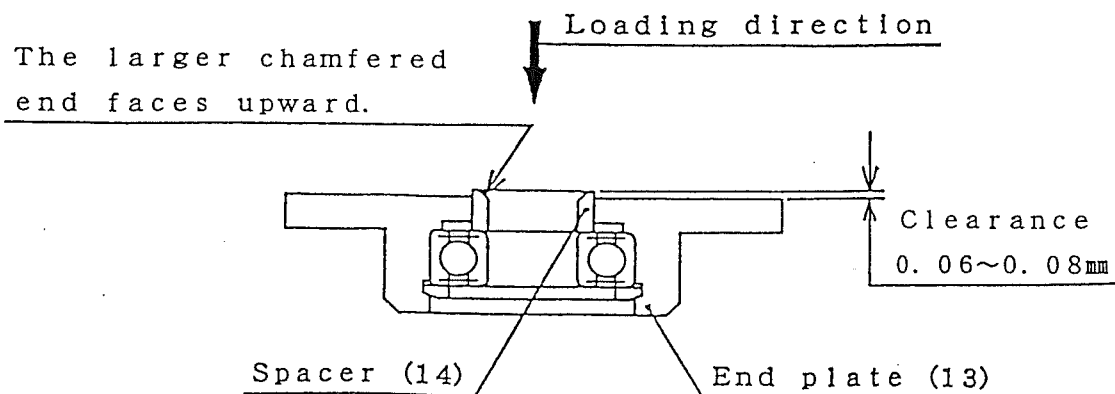

Fig. 14
- ② Install Spacers(14) so the larger chamfered end contacts Rotor(17) (see Figure 14).
Allowance for the projection is 0.06~0.08 mm (see Figure 14).